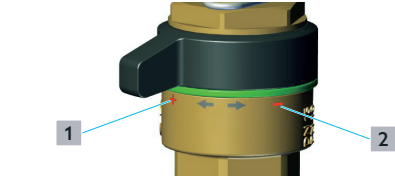

Fig. 3: Handle position open / closed
- 5 Push the valve into the retaining plate from the front. Align the valve so that the handle position marking (see Fig. 3) is clearly visible.
- 2 Insert the valve into the retaining plate. Align the valve so that the handle position marking (see Fig. 3) is clearly visible.